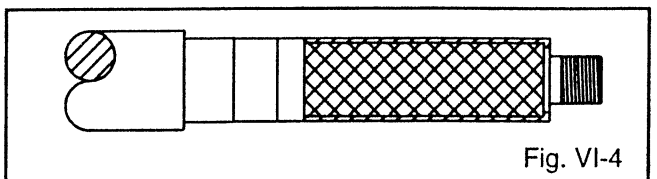

Fig. VI-4
9. Face off the sleeve shoulder even with and parallel to the shaft shoulder (Fig. VI-4).